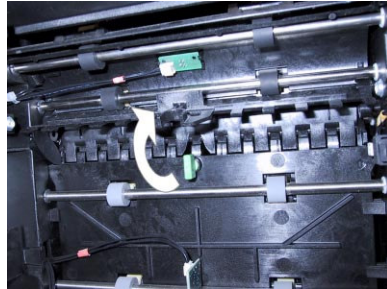

Fig. 7-10. Unlock and lift inner access door to check for stuck notes.
11. Release the **inner access door** (refer to **Figure 7-10**). Gently lift the door to expose the feed path. Remove any notes.